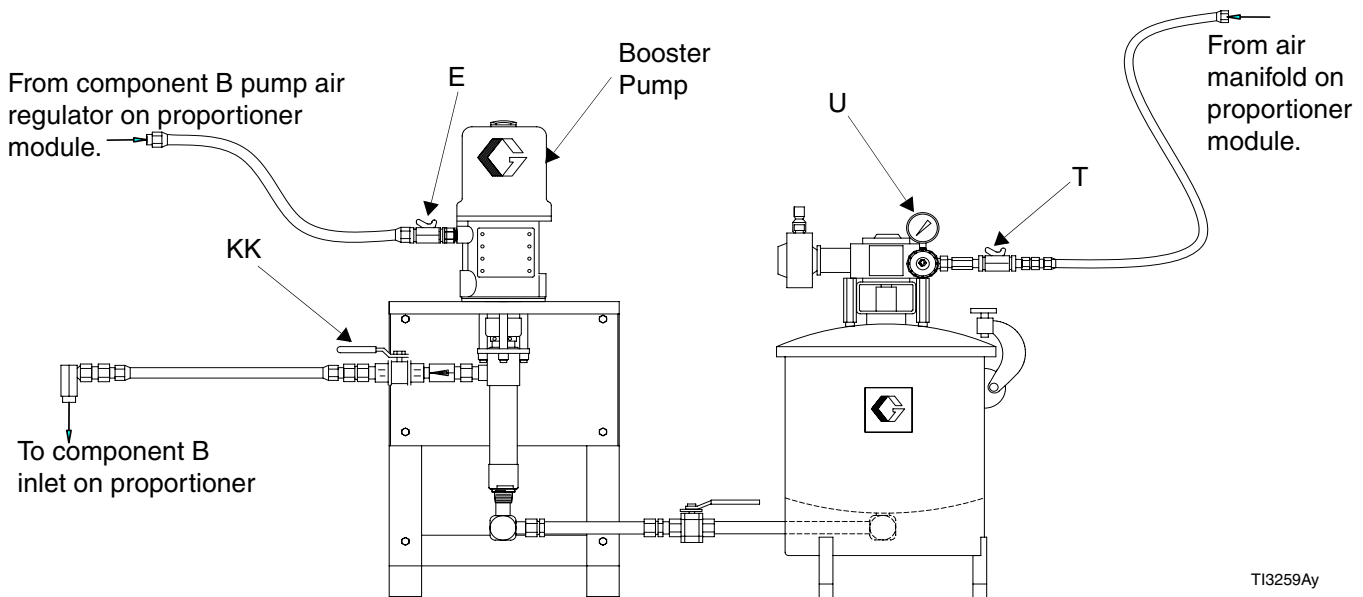
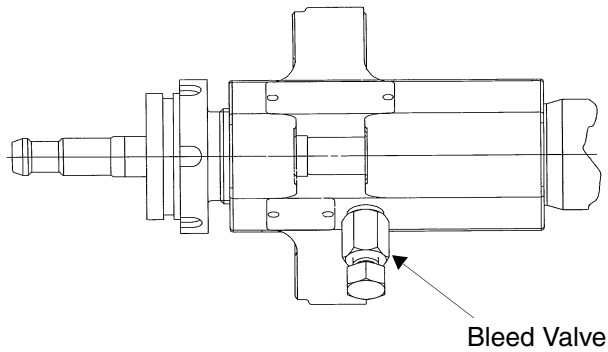

FIG. 15
FIG. 16
1. Place a waste container under the pump bleed valve located behind the displacement pump outlet, FIG. 16. Using an adjustable wrench, open the bleed valve counterclockwise 1/3-1/2 turn.
2. Slowly open the component B air motor shutoff valve (E), FIG. 15. Make sure the pump begins to cycle and material flows from the bleed valve after several cycles of the pump, FIG. 16.
3. Operate the pump until it moves smoothly in both directions with no air popping or erratic movement, then close the air motor shutoff valve (E), FIG. 15.
4. Close the bleed valve, FIG. 16.
11. Open the component B feed air shutoff valve (E-FIG. 15). Component B will feed through the metering cylinder to the mix gun.